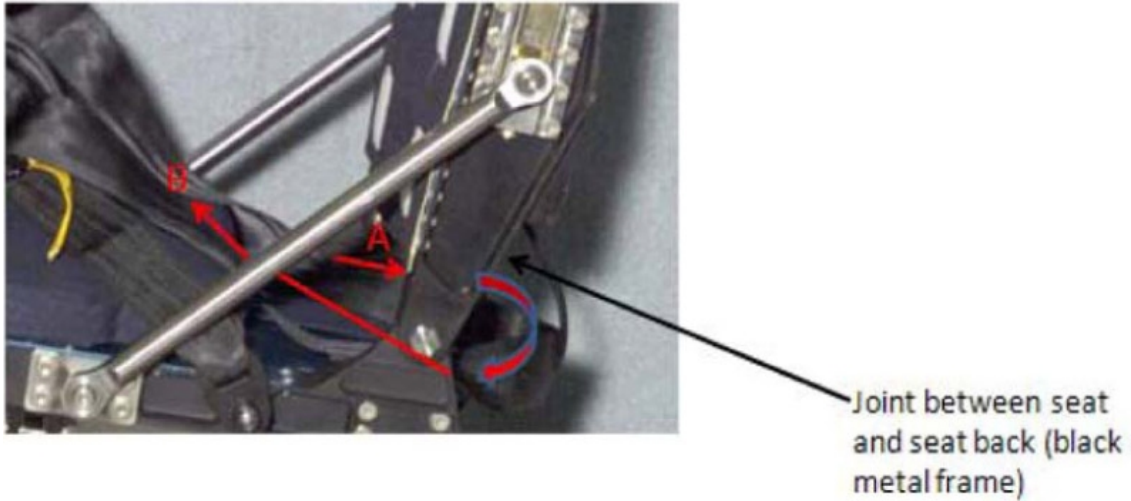

Figure 4. Lap Belt and Seat Back Joint Illustration
- 3.1 Lengthen lap belt straps and wrap lap belt straps around the joint between the seat and the seat back (black metal frame) by wrapping from the inside of the frame then around the joint (point A to point B in Figure 4).
- 3.1.1 Ensure that lap belt adjustment is accessible and possible. Refer to Figures 4 and 5.